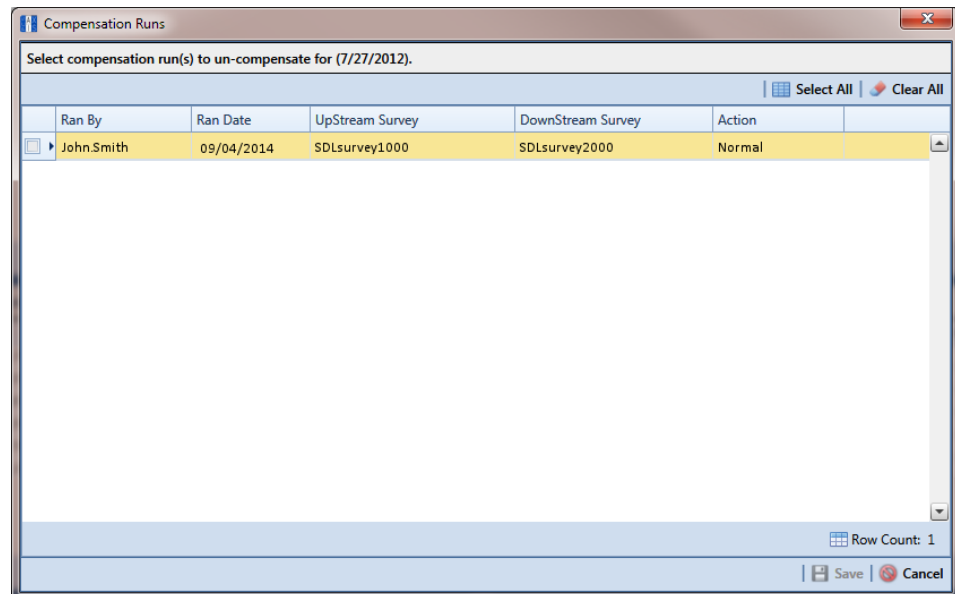

Figure 14-9. Compensation Runs
- 4 Select a stationary survey in the *Stationary Surveys* grid and then click  **Compensation Run(s)** to open the *Compensation Runs* dialog box (Figure 14-9).